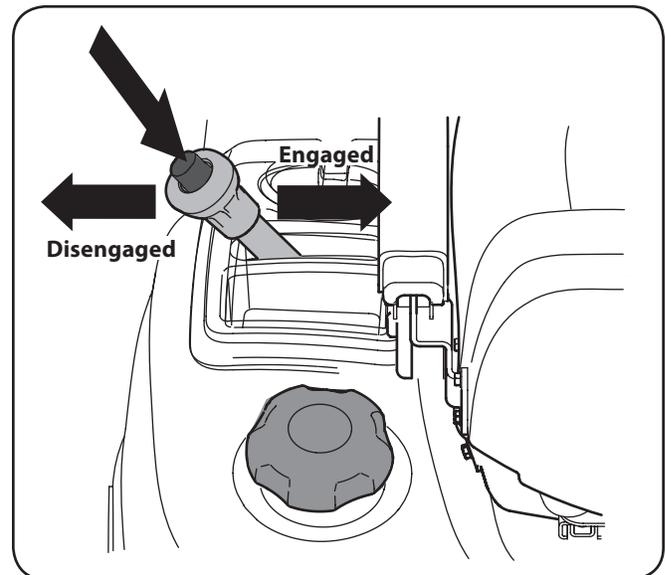

Figure 5-4
2. With the brake engaged, press down on the button on the differential lock handle and move the handle in to engage the differential lock. The indicator light on the dash will illuminate when the system is activated. See Figure 5-4.
3. To disengage the differential lock, stop the motion of the tractor, engage the brake and press down on the button and move to handle out. Release the handle to lock into place. The indicator light will go off when the system is off. See Figure 5-4.